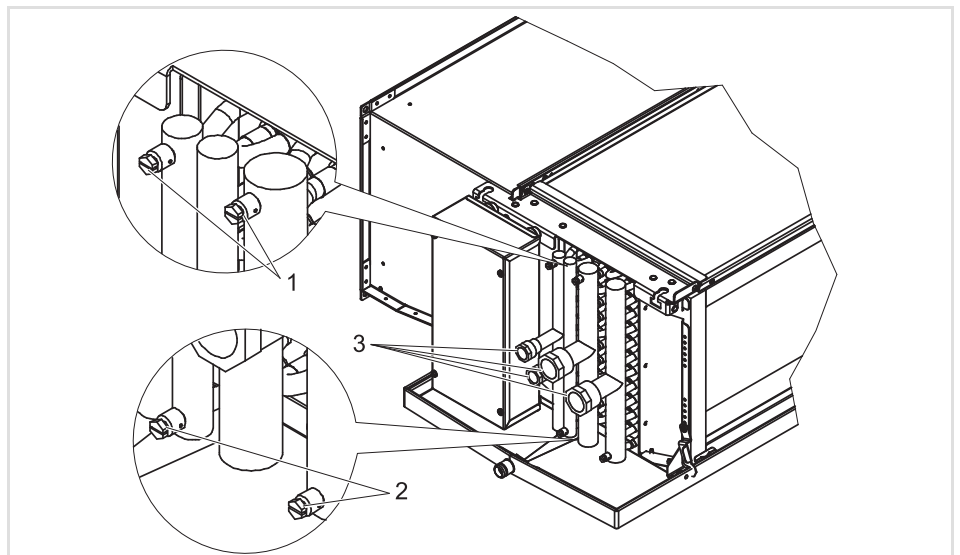

Fig. 8-7: Draining heat exchangers
- Empty the heat exchanger by opening all venting and draining screws at the heat exchanger connections (see Fig. 8-7, Pos. 1 and Pos. 2) and loosen the screw connectors of the medium connections at the heat exchanger (see Fig. 8-7, Pos. 3).